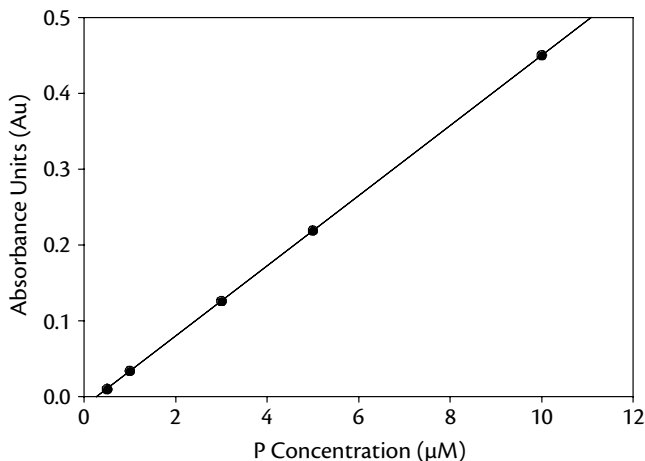

Figure 1. Calibration curve for determining phosphorus content in water samples.
8. Plot the calibration curve on a graph with concentration on the x axis and absorbance on the y axis (see Figure 1). Fit a linear curve to your data and determine the relation between absorbance and concentration. This is expressed as an equation in the form:
BEER'S LAW: A physical law stating that the quantity of light absorbed by a substance dissolved in a nonabsorbing solvent is directly proportional to the concentration of the substance and the path length of the light through the solution. Beer's Law is commonly written in the form $A = \epsilon cl$, where A is the absorbance, c is the concentration in moles per liter, l is the path length in centimeters, and ϵ is a constant of proportionality known as the molar extinction coefficient (SI units of $\text{m}^2 \text{mol}^{-1}$). The law is accurate only for dilute nonscattering solutions; deviations from the law occur in concentrated solutions because of interactions between molecules of the solute, the substance dissolved in the solvent. For conditions where Beer's Law applies, a plot of absorbance against concentration will give a straight line (see Figure 1), the slope of which is ϵl .